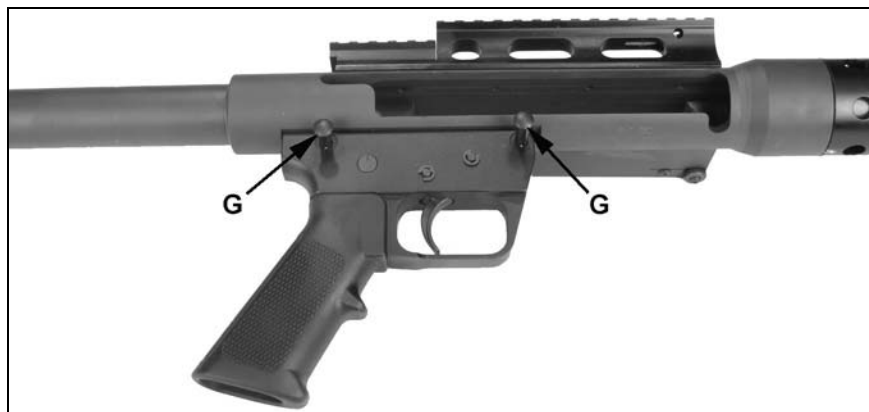

Figure 30
7. Remove two pins (G) to separate upper from trigger group. See figure 30.